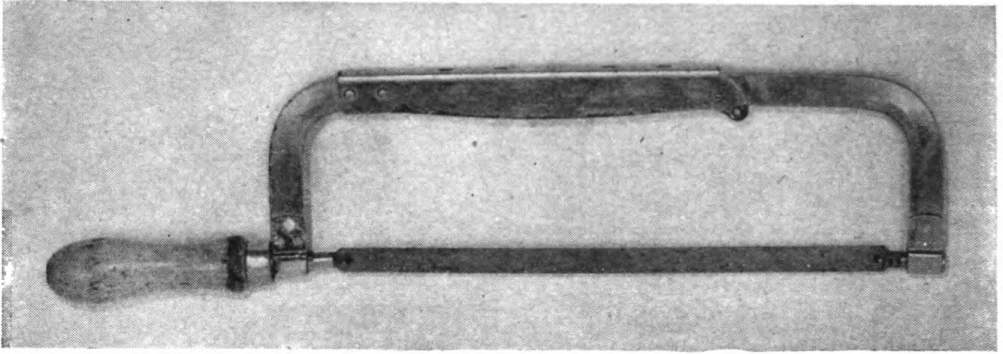

Figure 131. Hacksaw.
*f. HACKSAWS.* (1) A hacksaw (fig. 131) is used to cut metals and other hard materials. It usually has an adjustable frame into which blades of various lengths can be fitted. The position of the blade with respect to the frame may be varied. The blade is installed with the teeth pointing forward; the handle or a wing nut is turned to tighten the blade and hold it in place.